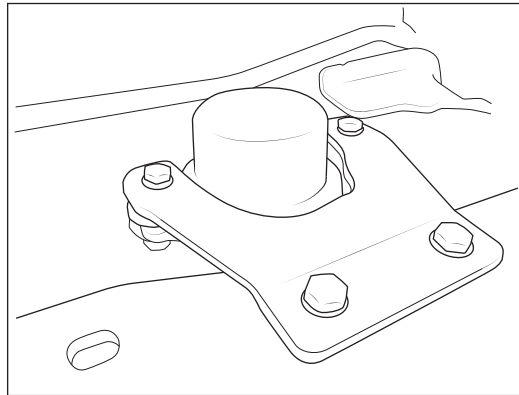

Figure 9
2. Mount the vacuum pump to the winch mount plate using the vacuum pump mount plate (fig. 9).